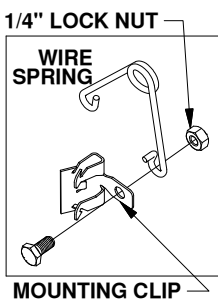

Figure C1: Leveling kit parts.
1. **Assemble kit.** Locate the 1/4" cap screw and nut, along with the wire torsion spring and mounting clip. Pass the 1/4" cap screw through the mounting clip and the wire spring, as shown in Figure C1. Thread the 1/4" lock nut onto the 1/4" cap screw. Tighten the lock nut just enough that the spring will stay in place but will still be able to rotate around the bolt if needed.